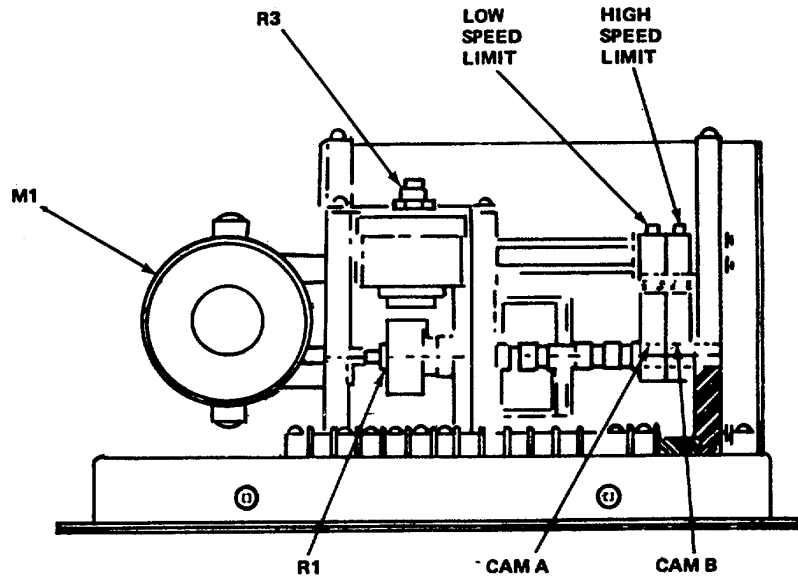

Figure 4-17. Motor-Operated Potentiometers, Cam Adjustment
- (f) The 230 ± 5 ohm reading in step (d) is adjusted with cam B. This cam should be adjusted to stop the motor at 230 ± 5 ohms, see figure 4-17.
- (g) The 8 ± 5 ohm reading in step (e) is adjusted with cam A. This cam should be adjusted to stop the motor at 8 ± 5 ohms, see figure 4-17.